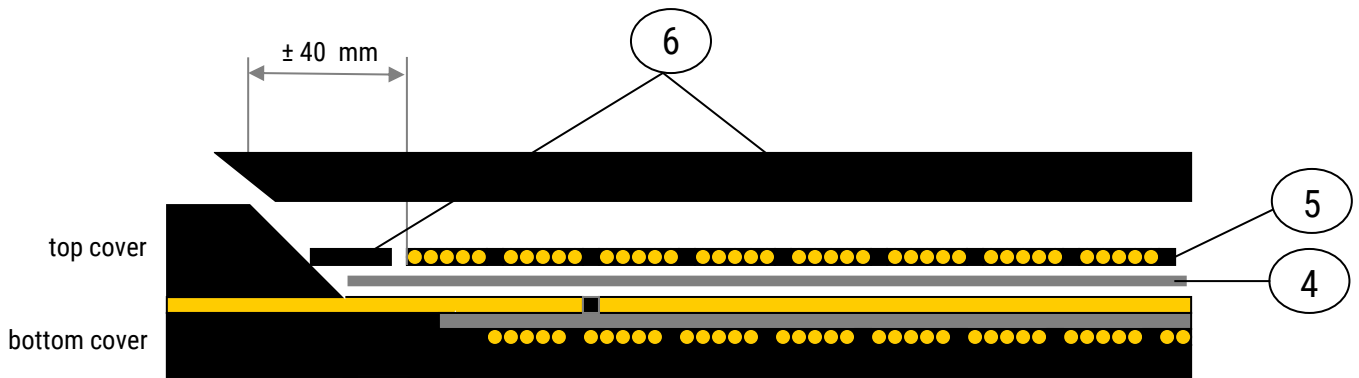

Figure 4. Building of the top cover
- top cover: Duncover (6)
- insertion strips (5)
- skim rubber: Dunlofol (4)
- Cover the splice with a layer of Dunlofol (see fig. 4, pos. 4) **Note:** The Dunlofol should not touch the existing cover rubber!
- Place the insertion strip in transverse direction on the Dunlofol (see fig. 4). The length of the insertion strips should equal the width of the steel carcass. The gap around the insertion strips should be filled with Duncover.